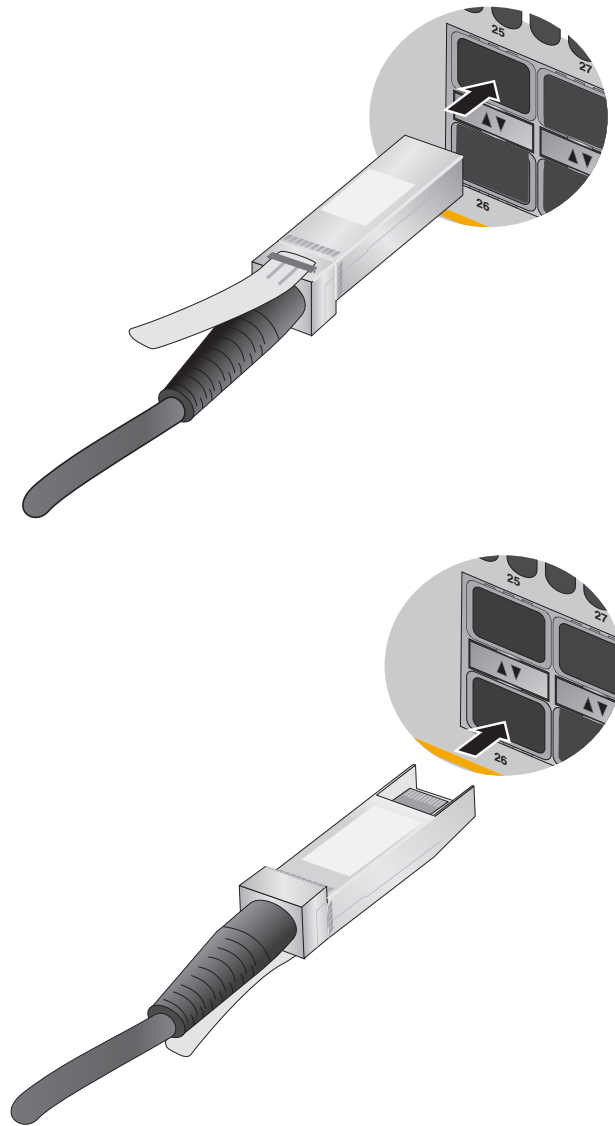

Figure 59. Installing AT-SP10TW Cables
3. To install the transceiver in a port in the top row, position the transceiver with the Allied Telesis label facing up. To install the transceiver in a port in the bottom row, position the transceiver with the label facing down. Refer to Figure 59.